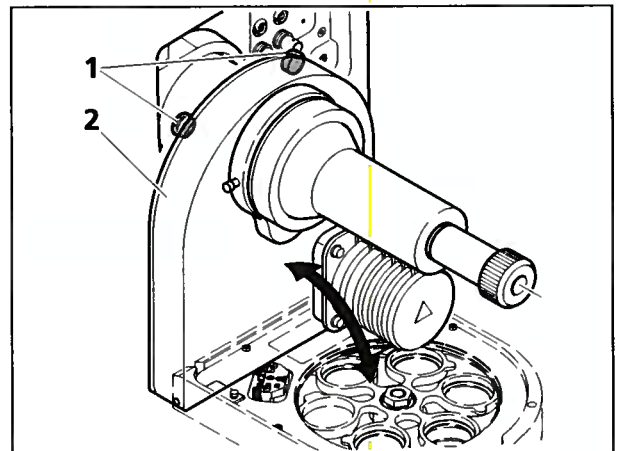

Fig. 6-20 Opening the filter wheel
- Loosen the two knurled screws (Fig. 6-20/1) on the filter wheel and fold down the moving part (Fig. 6-20/2).
- Fold up the moving part (Fig. 6-20/2) of the filter wheel again and secure it with the two knurled screws (Fig. 6-20/1).